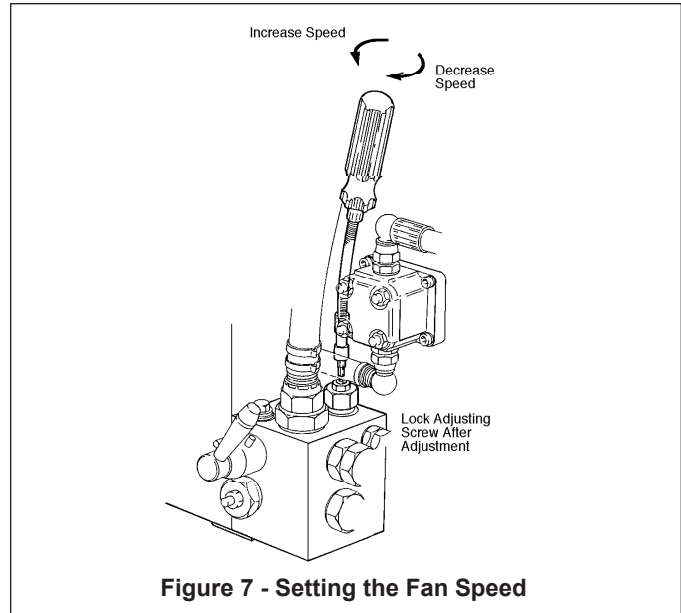

Figure 7 - Setting the Fan Speed
The Hydrive fan speed is factory set. Standard Hydrive units are set at 2800 RPM. High Pressure Hydrive units are set at 3,400 RPM. **NOTE: The fan will not reach rated speeds without adequate system pressure.** Fan speed may be adjusted to control the Hydrive operating temperature. *The equipment required includes: optical tachometer, extended 4mm hex socket key and a 13mm wrench.* (See Figure 7.)
3. While constantly checking the fan speed with an optical tachometer, increase the fan speed by turning the adjusting screw *counterclockwise*. Decrease the fan speed by turning *clockwise*. (See Figure 7.)